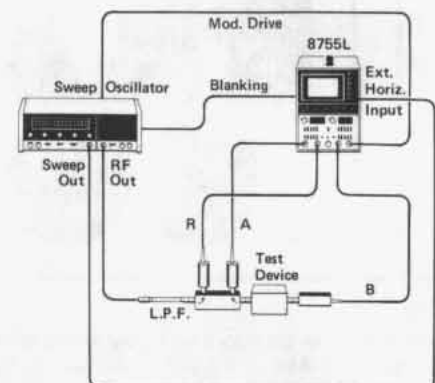

Figure 3
- I talked with one of our microwave experts and he recommended using the setup shown below taken from the 1976 HP catalog, page 350, Figure 3. He did recommend using a standard detector characterized at your particular frequency for system calibration.